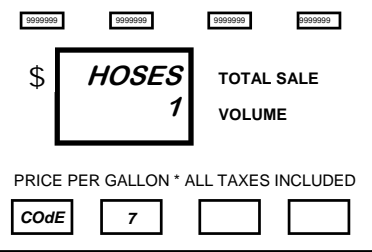

Figure 7.3
- Once the **ENTER** button has been pressed, the number of Hoses appears in the main display. The default setting is for 1 hose per side of the dispenser. See Figure 7.3.